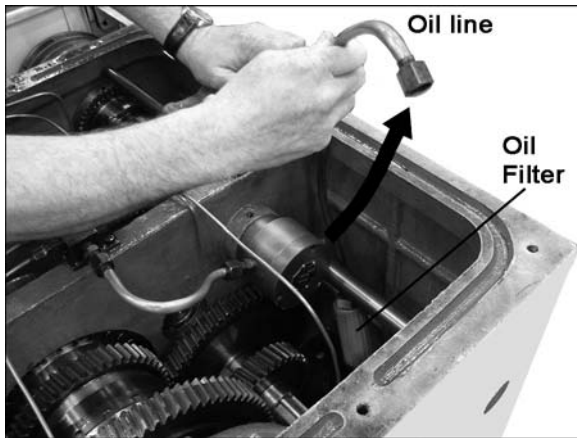

Figure 11 – Oil filter access
4. **Oil Filter** – The filter should be cleaned once a month. To access, open the top cover on the headstock, unscrew the nut on the oil line, and pull up the oil line to bring the filter up. See Figure 11. Use a brush to clean.